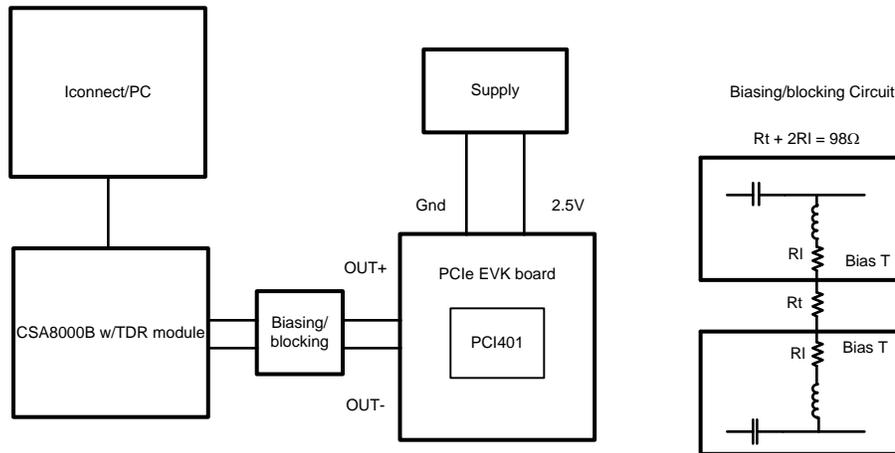

Figure 6. Input and Output Return Loss Setup
- (1) Typical values represent most likely parametric norms at V_{DD} = 2.5V, T_A = 25°C., and at the Recommended Operation Conditions at the time of product characterization and are not guaranteed.
- (2) The Electrical Characteristics tables list guaranteed specifications under the listed Recommended Operating Conditions except as otherwise modified or specified by the Electrical Characteristics Conditions and/or Notes. Typical specifications are estimations only and are not guaranteed.
- (3) Measured with DEM Select pins configured for 1000mV VOD, see De-emphasis table.
- (4) Input edge rate for LVC MOS/FLOAT inputs must be 50ns minimum from 10-90%.
- (5) Input Return Loss also uses the setup shown in Figure 6. The blocking / biasing circuit is replaced with a simple AC coupling capacitor for each input to emulate a typical PCIe application.
- (6) Measured at package pins of receiver. Less than 40mV is IDLE, greater than 175mV is ACTIVE. SD_TH pin connected with resistor to GND overrides this default setting.
- (7) Measured with a repeating K28.5 pattern at a data rate of 2.5 Gbps and 5.0 Gbps.
| RL _{TX-DIFF} | Differential Output Return Loss | 0.05- 1.25 Ghz, See Figure 6 | | -23 | | dB |
| | | 1.25- 2.5 Ghz, See Figure 6 | | -20 | | dB |
| RL _{TX-CM} | Common Mode Return Loss | 0.05- 2.5 Ghz, See Figure 6 | | -11 | | dB |